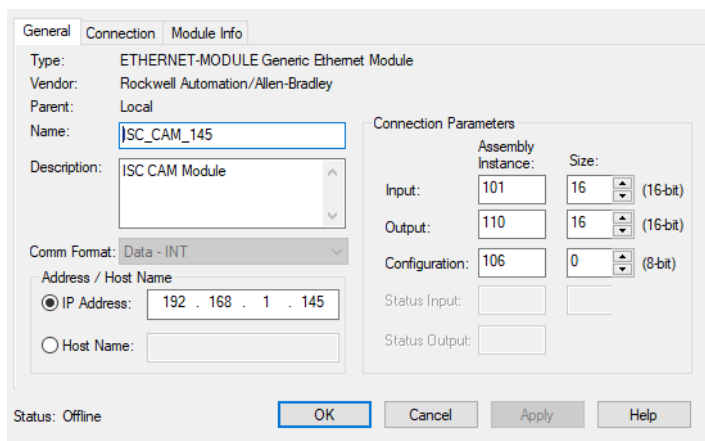

Figure 31: Assembly Instances for Generic Ethernet Device
15. If creating a Generic Ethernet Device, see Figure 31 for Assembly Instances.